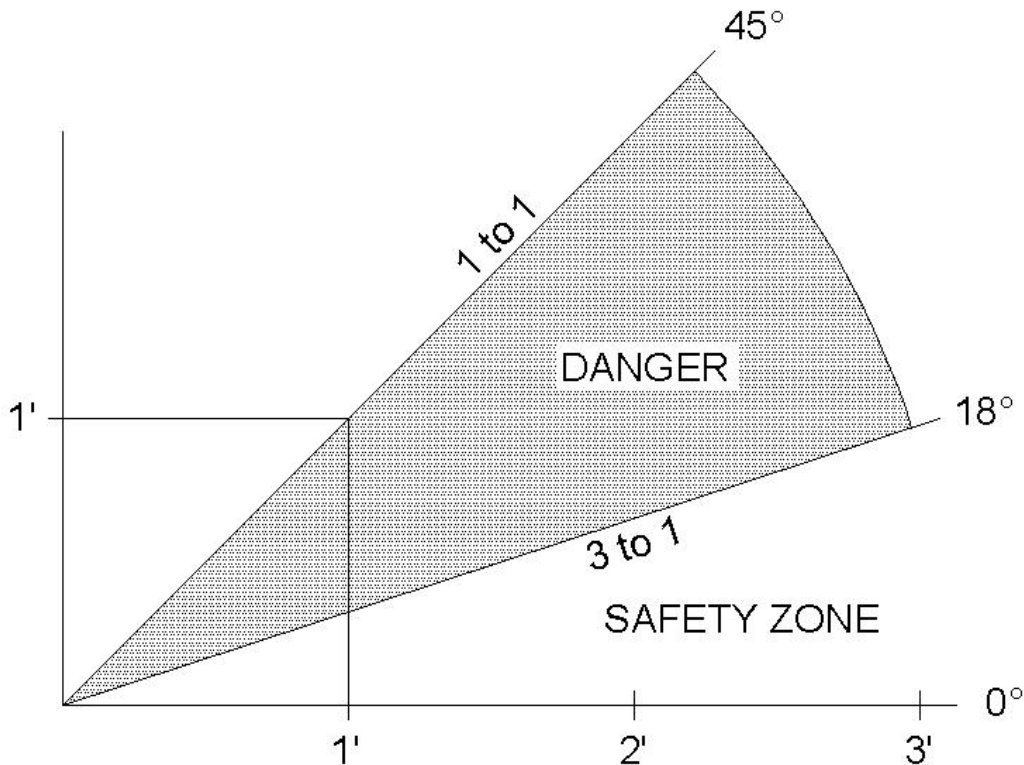

Figure 29. Slope hazards.
- Amber flashing lights, mounted on tractors and slope-mowing equipment, must be on and working properly during mowing operations (Figures 29 and 33).
Mowing on slopes presents one of the most dangerous situations in tractor-mowing operations because of the increased possibility of overturning the equipment (Figure 29). For this reason, slopes with a grade steeper than 3:1 must only be mowed with specially designed slope-mowing equipment. By mowing these areas with slope-mowing equipment, the operator will minimize the possibility of the slope eroding due to rutting or scarification of the turf.